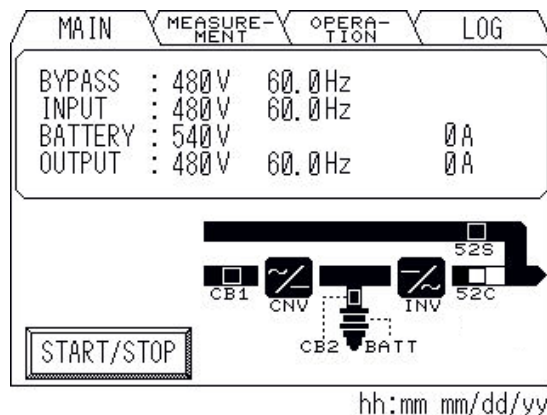

Figure 5-15 UPS Transfers to Bypass
- The UPS transfers to Bypass. The Bypass contactor (52S) closes and the Inverter contactor (52C) opens. (Figure 5-15)